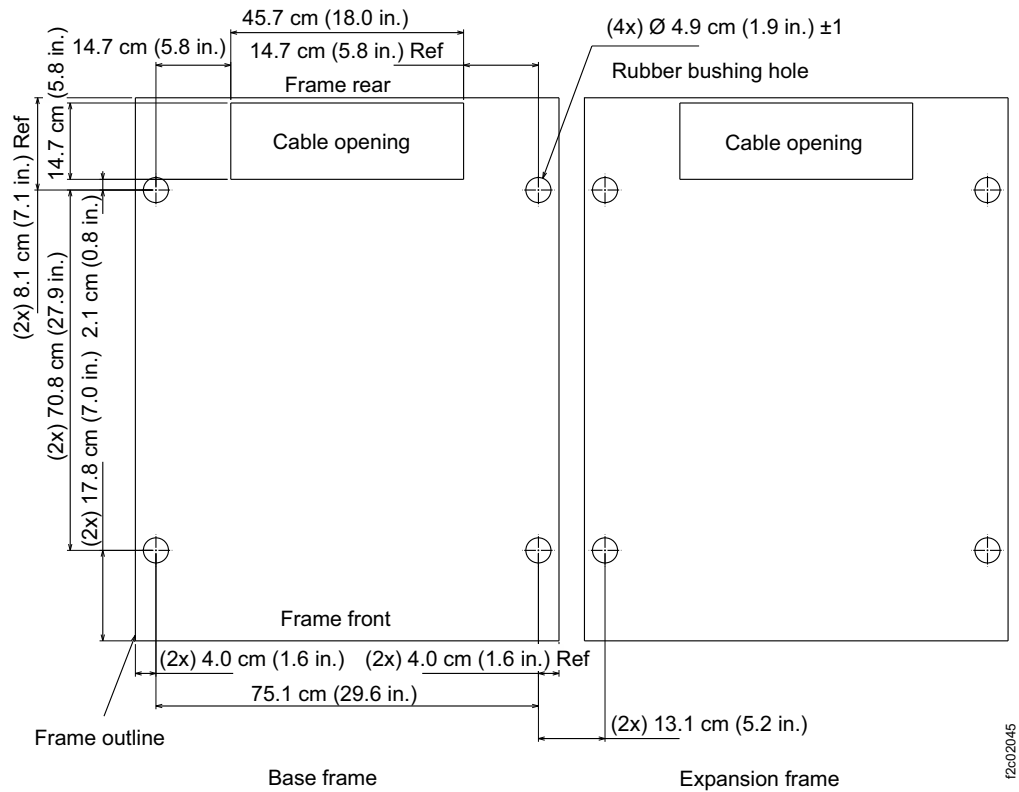

Figure 19. Locations for the cable cutouts, rubber bushing holes on raised floors, and eyebolt on concrete floors
Use Figure 19 as a guide for the location and dimensions of these openings. The pattern repeats for up to four frames. Dimensions are in millimeters (inches).
- See Figure 19 on page 141 to determine the placement of the eyebolts. The eyebolts must be installed so that they are directly below the holes that you cut in the raised floor for the rubber bushings.